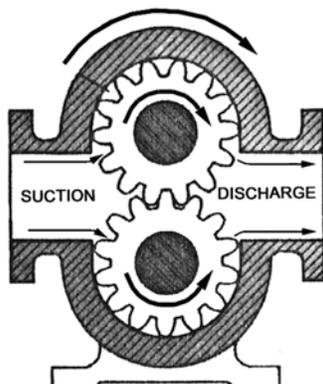

Figure 3. Proper Oil Flow Through Gear-Type Rotary Pump.
- 6. Wire the pump as indicated on the unit's nameplate. Starters are not normally supplied as a part of the set. This permits the customer to choose the most convenient location for the switch. Before the wiring is sealed, momentarily energize the pump motor and check the direction of the pump rotation. The pump must rotate in the direction which causes the oil to be carried around, not between, the gears (as indicated in Figure 3).